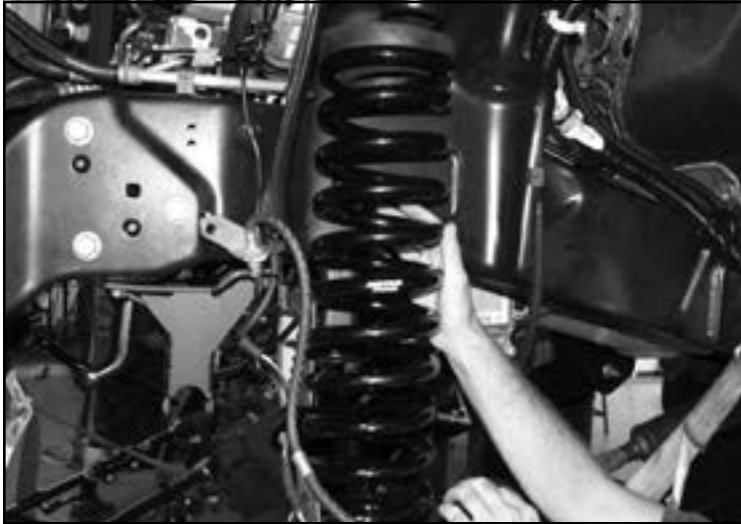

FIGURE 24 - STEP 23
23. Install FT30123BK (Coil Spring) using the factory upper isolator. **SEE FIGURE 24**